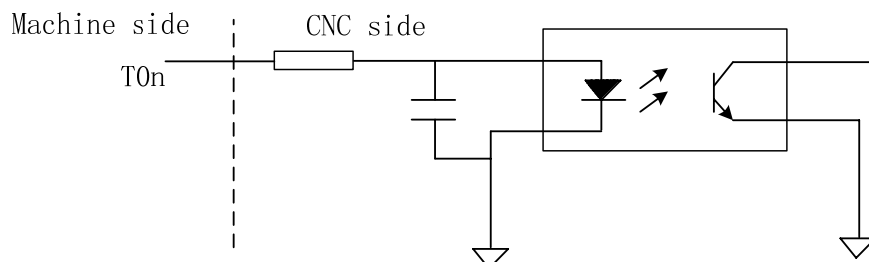

Fig. 2-35
- The T01~T08, TCP signals input are employed with photocoupler, its interior circuit is shown in Fig. 2-35: